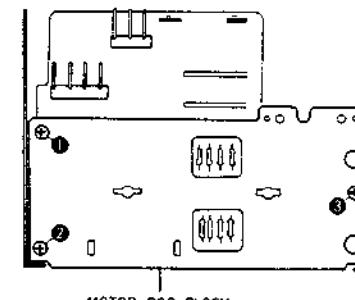

Fig. 3-10
- 2) Remove motor PCB block securing screws ④, ④ and ④ and take out the motor PCB block. (Refer to Fig. 3-10.)